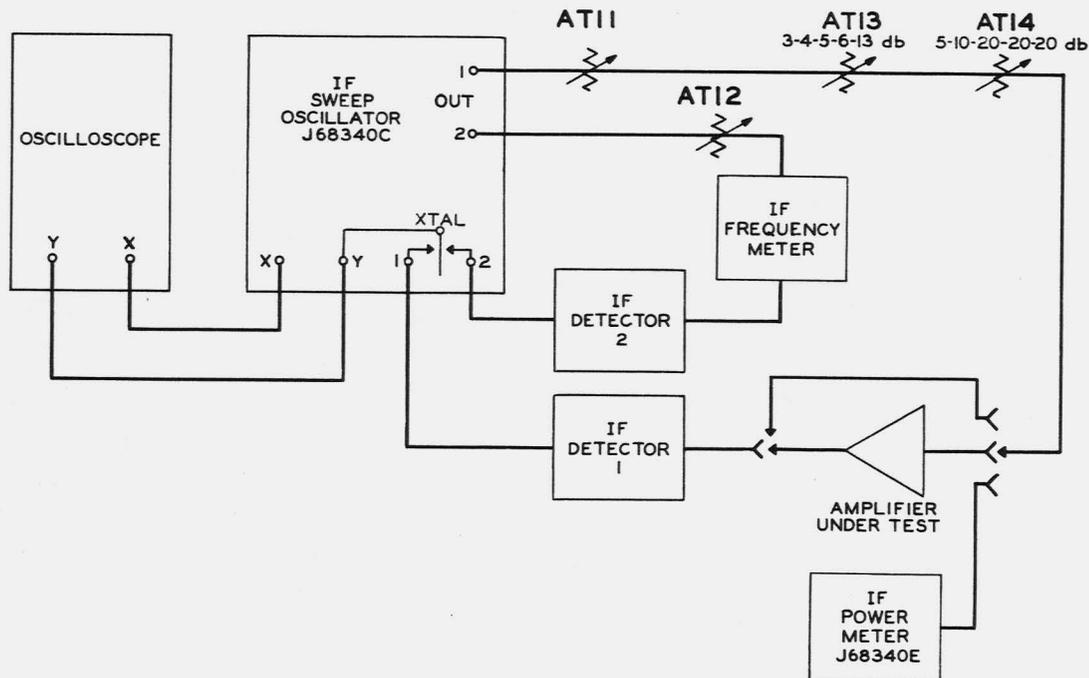

Fig. 8 - Test Arrangements for Measurement of Gain-frequency Characteristics of IF Amplifiers
- Set up the apparatus in accordance with Fig. 8 setting attenuators as follows: